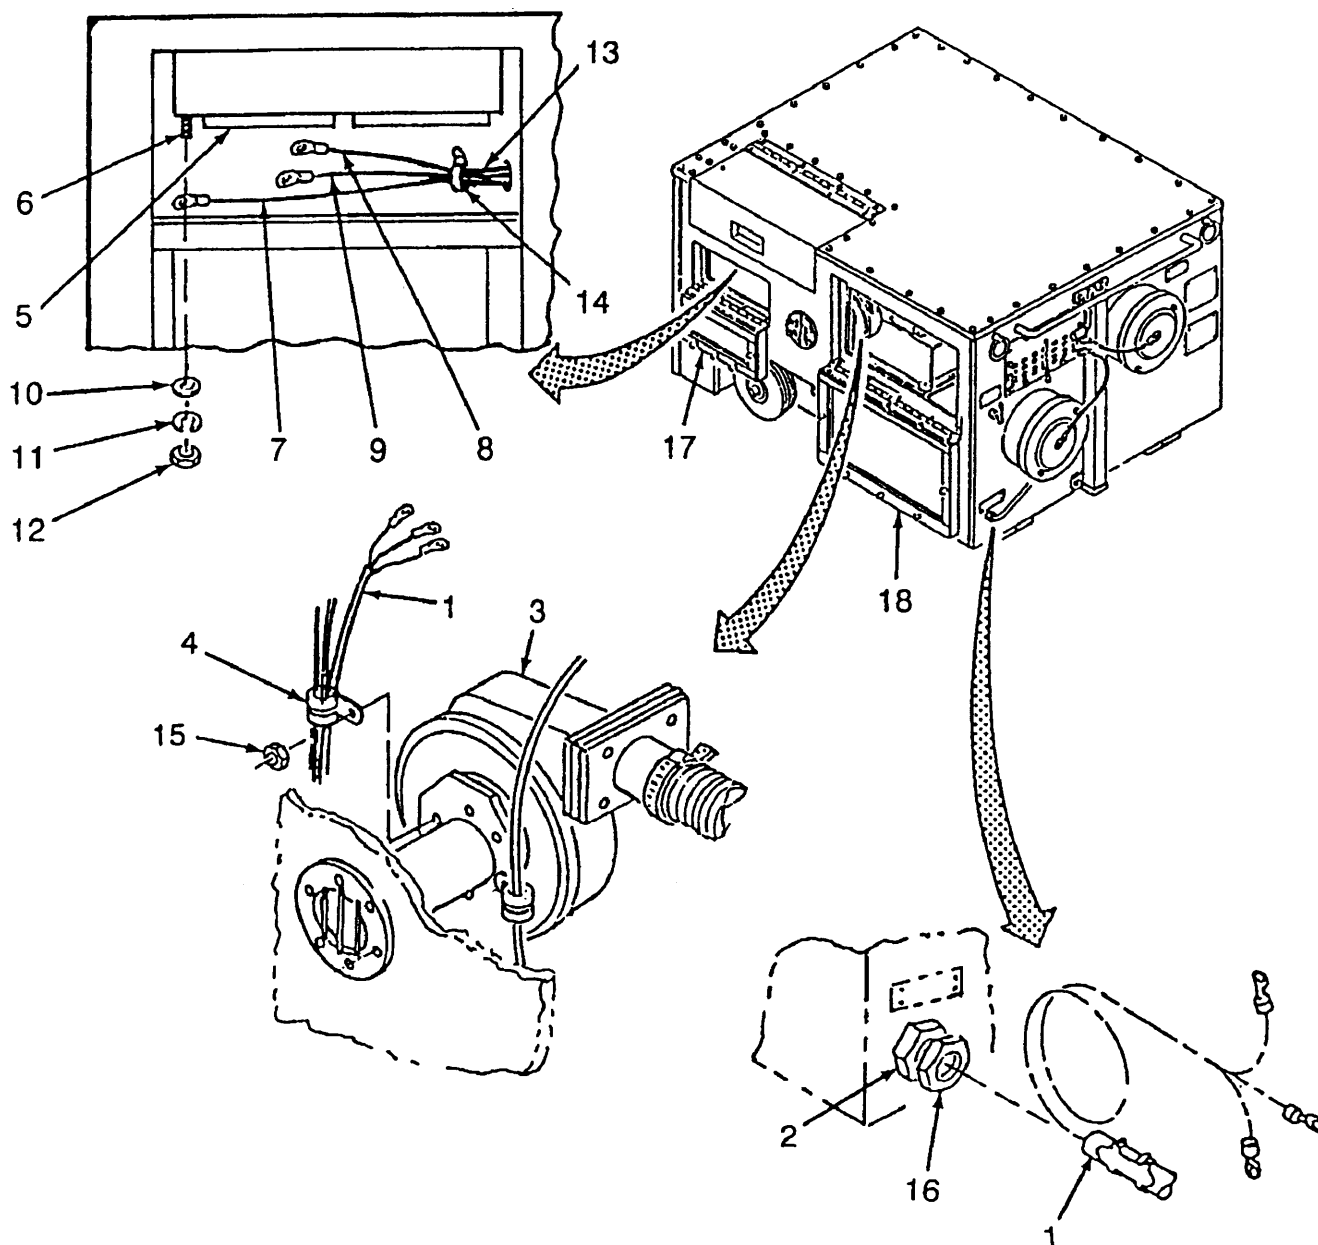

Figure 4-76. Power Cable Installation
- e. Installation (Refer to Figure 4-76)
- (1) Insert power cable (1) through fitting (2).
- (2) Route power cable (1) along the bottom of unit, under combustor fan assembly (3).
- (4) Bring power cable (1) up along side the combustor fan assembly (3) and feed cable (1) through clamp (4). Allow enough slack to attach the three wires to TB 1 (5) and G1 (6).
- (5) Connect wires (7), (8) and (9) as follows:
- (a) Connect green wire (7) P1-C, to the G1 (6), secure with flat washer (10), lockwasher (11) and nut (12).
- (b) Connect white wire (8), P1-B to TB1 (5) position TB1-2.
- (c) Connect black wire (9), P1-A to TB1 (5) position TB1 1.
- (6) Tie power cable (1) to the wire bundle (13) using wire ties (14) as required.
- (7) Tighten nut (15) to secure clamp (4).
- (8) Tighten nut (16).